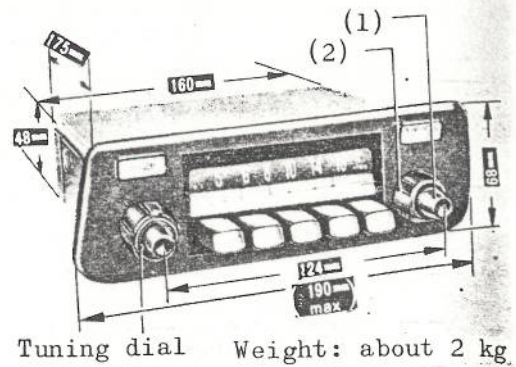

Fig. 10-157
(Fig. 10-157)
(1) Combination dial for power and volume (Fig. 10-157)
(2) Tone control dial (Fig. 10-157)
(3) Tuning dial (Fig. 10-157)